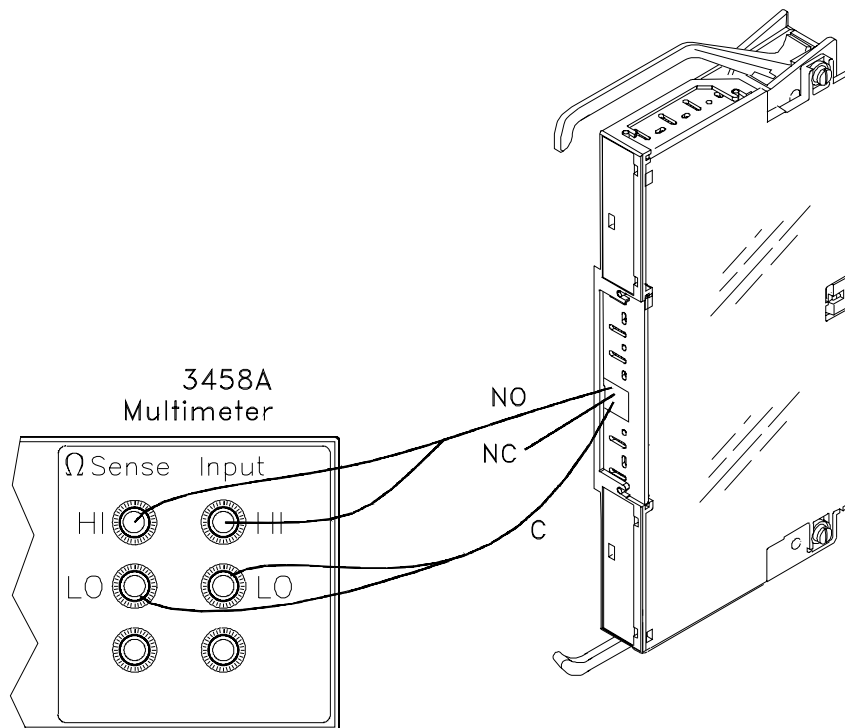

Figure 2-2. Common to NO Test Connections
- Connect DMM leads as shown in Figure 2-2